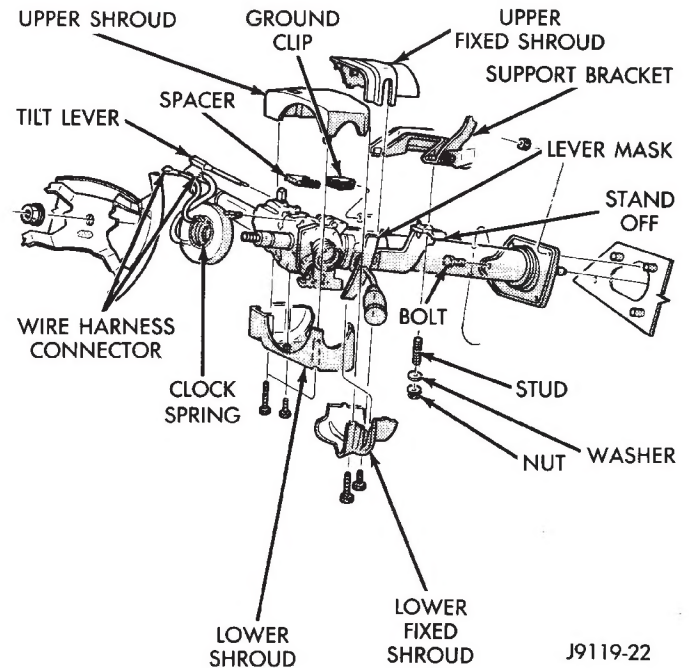

Fig. 10 Steering Column Shrouds Remove/Install
- (1) Disconnect battery negative cable.
- (2) Remove lower instrument panel/knee blocker assembly. Refer to Group 8E - Instrument Panel and Gauges for procedure.
- (3) Remove tilt lever (tilt column only).
- (4) Remove upper and lower column shrouds to gain access to the switch connector (Fig. 10).